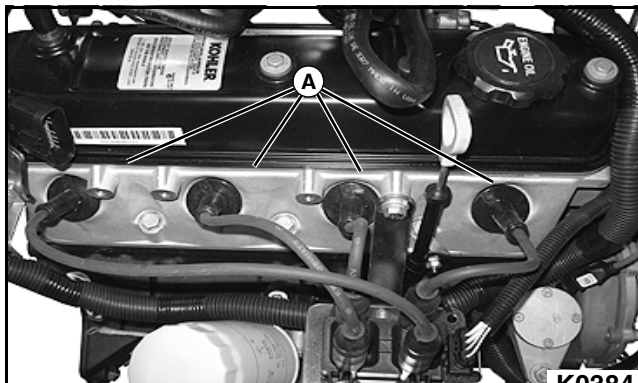

Figure 5-22
2. Use a cloth to wipe dirt and oil away from the area around each of the four spark plug wires (A). **See Figure 5-22.**